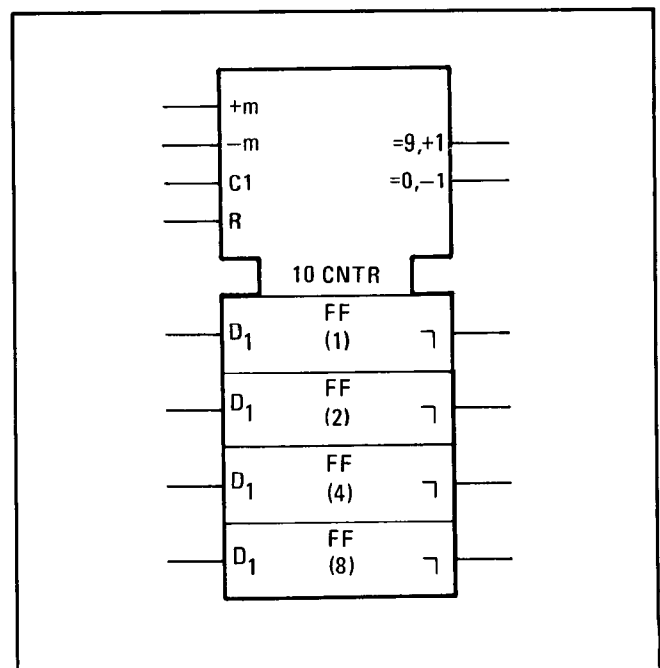

Figure 8-18. Up-Down Counter Example
**8-75. Up-Down Counter Control Block.** The counter control block (Figure 8-18) is used to show the common inputs to a Presettable Decade Up/Down Counter. Notice that " $+m$ " means count up (increment the count) by "m"; " $-m$ " means count down by "m". Note that if  $m=1$ , "m" may be omitted. Since the D-type flip-flops are master-slave, the output delay indicator is used. The " $=9, +1$